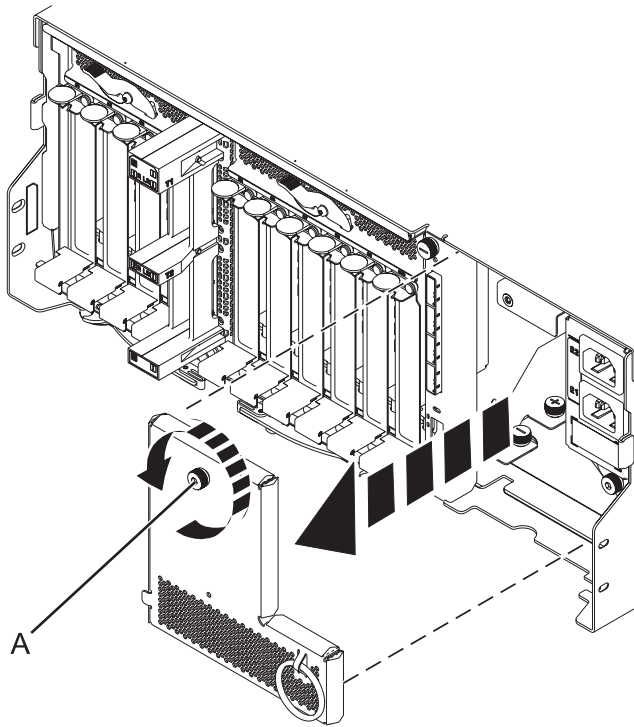

Figure 100. Removing the power cord plate
10. Remove the power cord plate by turning the thumbscrew (A) and pulling the plate away from the system, as shown in Figure 100.